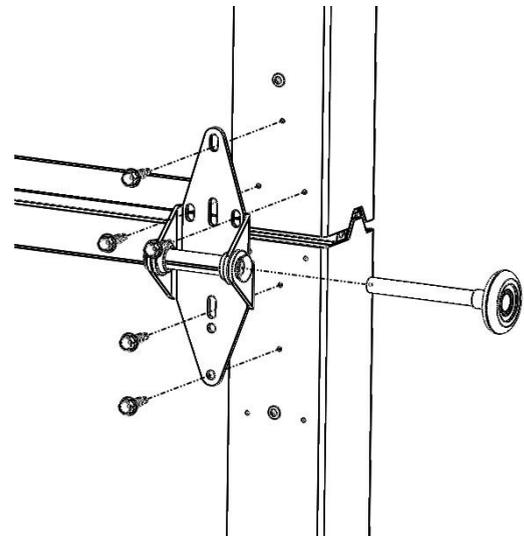

Figure 17 Panel and hinge
4. Place Panel 2 on top of Panel 1 and attach the next hinge in order. In the designated holes screw in the bottom of the hinge first, then the top of the hinge (**SEE FIGURE 17**). Make sure a good seal is made.